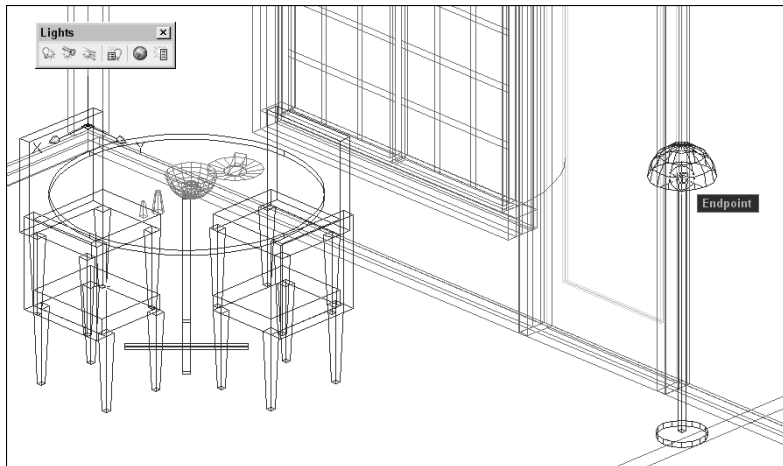

**Figure 25-8:** Picking the point light location.
4. Pan to the right until you see the floor lamp, as shown in Figure 25-8.
Follow the prompts: Specify source location <0,0,0>: *Pick the endpoint shown in Figure 25-8.*